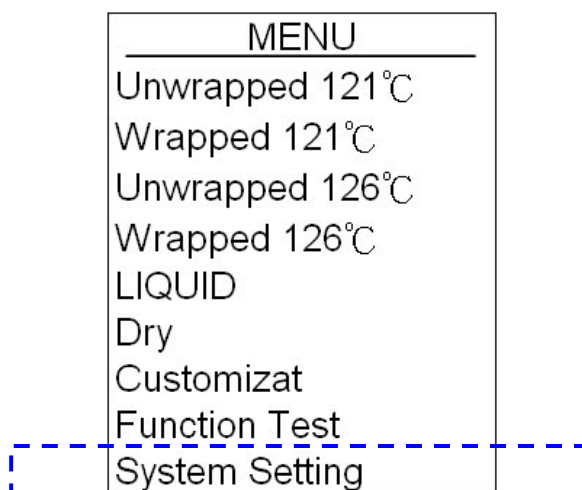
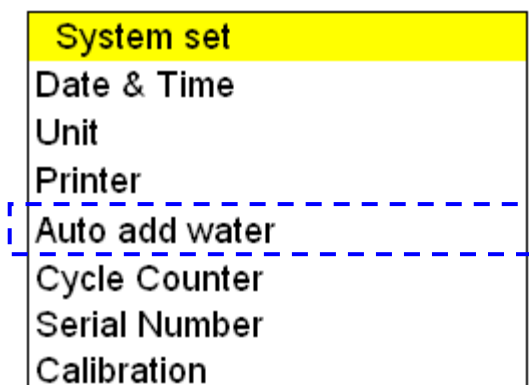

Figure 129
Figure 130
- A. Press  or  button to select System Setting program (Figure 129), and then press  button to select Auto add water setting, as shown in Figure 130.